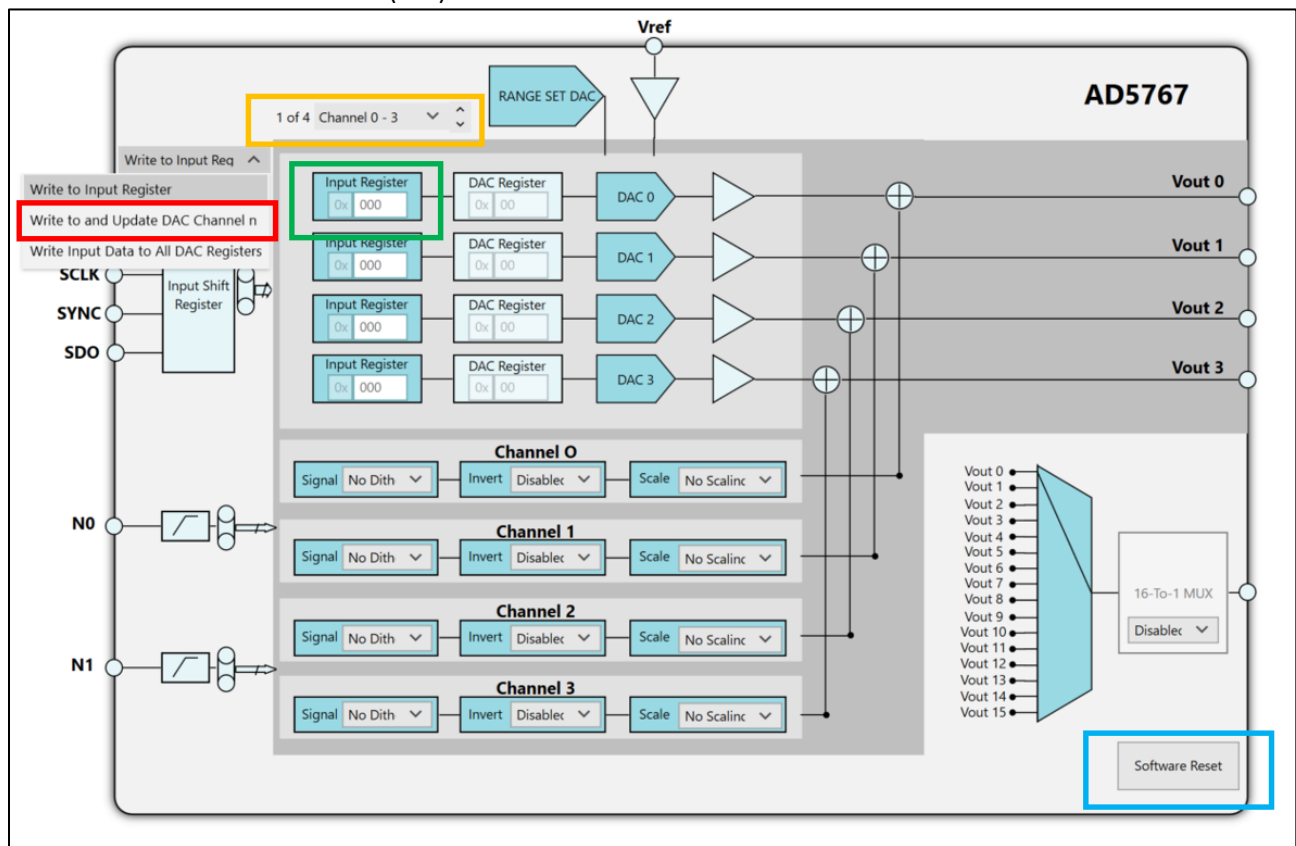

Figure 19 Writing on DAC using ACE
This will write a full-scale code on the DAC. Refer to Figure 19:
5. On the **channel selection** choose **Channel 12-15** as shown in Figure 19.
6. Choose **"Write to and Update DAC Channel n"** and on the Input Register of **DAC 15** type in **"FFFF"**. (Refer to Figure 19) and measure using the MUXOUT test point: